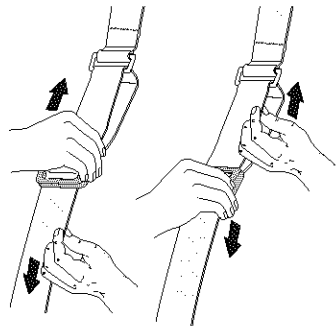

Fig. 13
5. Lengthen the harness by pulling down on the strap and moving the buckle up. Shorten the harness by pulling the strap back through the buckle while moving the buckle down (Fig. 13)